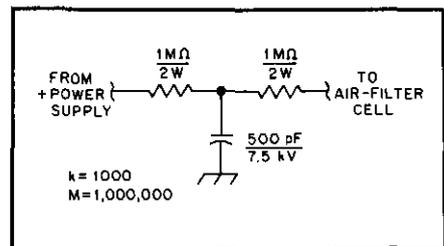

Fig 5—John Morris cleaned up air-cleaner interference with this simple T-section filter. See text.
□ My Heathkit® GDS-1297 electrostatic air cleaner worked fine as assembled, with the exception that it caused a loud frying noise in nearby MF and HF receivers, and snow on a TV in the same room. The unit's power supply—approximately 6 kV—is clean. Only when the air-filter cell was connected to the supply did the noise appear. My cure? A simple T-section filter consisting of two 1-M $\Omega$  resistors and a 500-pF, 7.5-kV capacitor to ground between the power supply and the air-filter cell (see Fig 5). This filter reduced the noise to an acceptable level.—*John L. Morris, W6YAR, 14427 Allingham Ave, Norwalk, CA 90650*